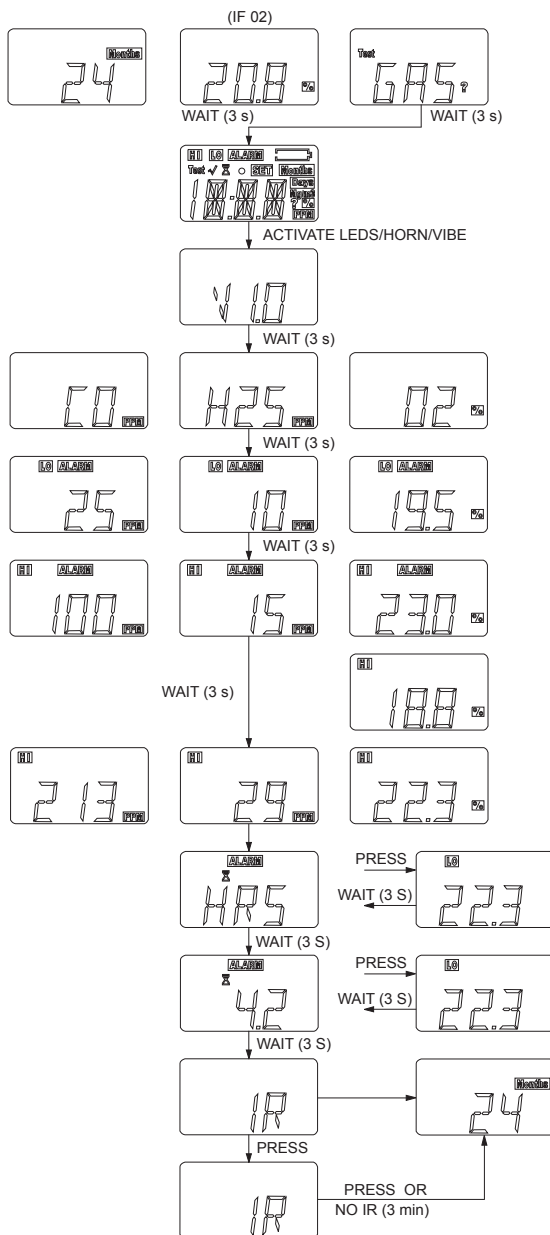

Fig. 5 Calling instrument information up
- (1) By pressing the [TEST] key, the stored instrument data can be called up (→ Fig. 5).